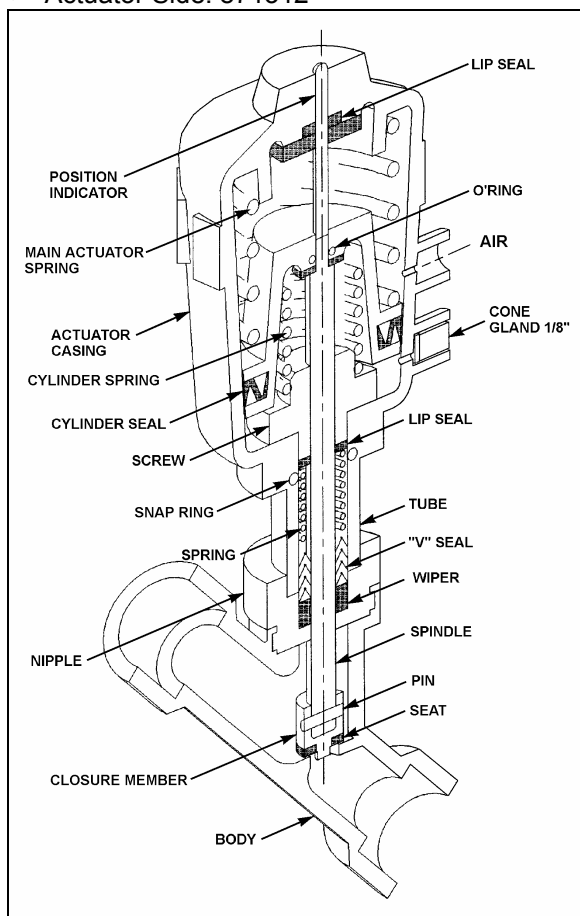

FIGURE 53: PASSENGER'S UNIT HOT WATER PNEUMATIC VALVE
2. The water valve need not be removed from the line. Unscrew nipple, the actuator casing, tube, spindle and closure member can be removed (Figure 53).
2. Tighten the nipple in place in the body cavity as per Figure 53. Fasten pilot solenoid valve to the pneumatic water valve. Reconnect air supply pressure and electrical current to the pilot solenoid valve.